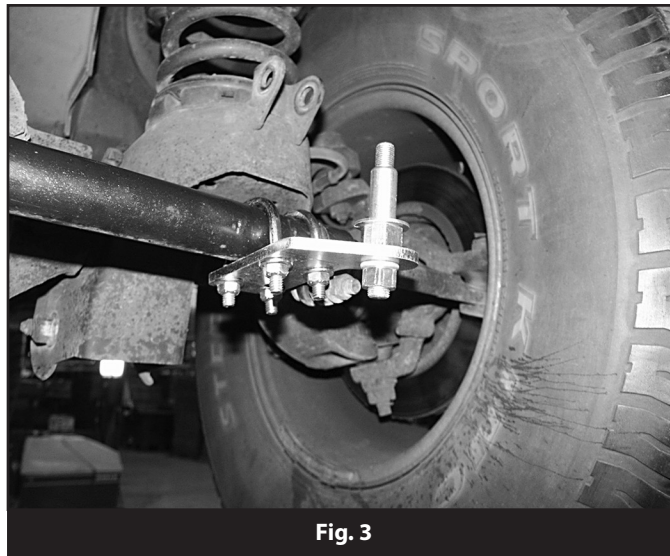

Fig. 3
7. Install the provided shock studs (included with the shocks) in each of the tie rod brackets (Fig 3) and torque the mounting nut to 35 ft-lbs.